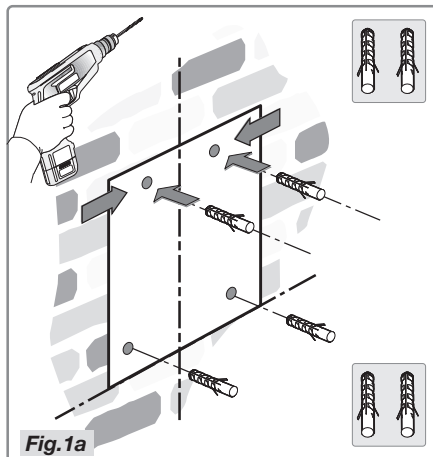

Fig.1a
- Place the template on the wall and ensure that the line corresponds to the line previously drawn on the wall. Mark the position of the holes and drill these (Fig.1a).